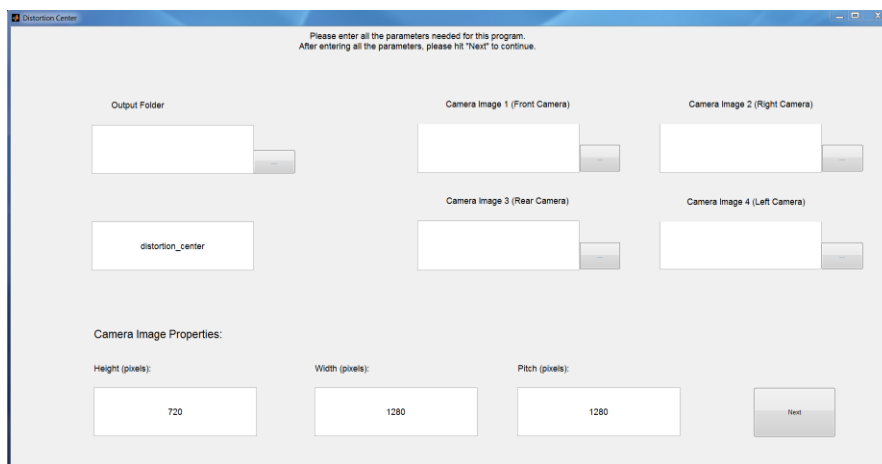

Figure 18 – Fisheye Tool starting window
1. By running “fisheye_tool.exe” in folder ./fisheye_tool/, first you will see the windows shown in Figure 18. It will ask you to select input file, output folder and output filename. Choose output folder to be the same as where the camera images are located. Also, specify the height, width and pitch of the input camera images, if they differ from the default values.